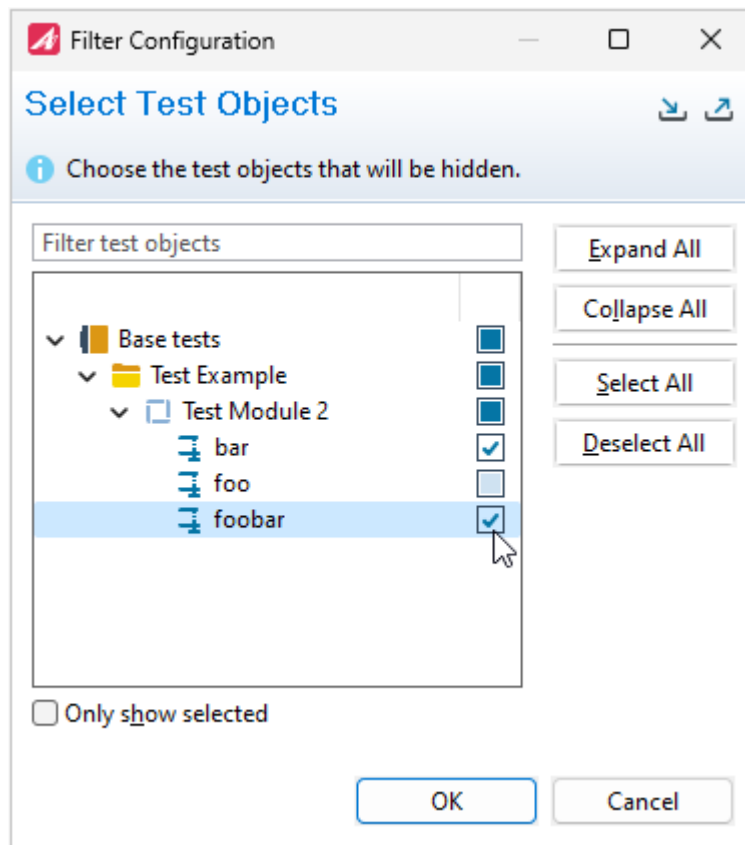

Figure 6.44: Filter Configuration Dialog
- The Filter Configuration dialog will open (see figure 6.44).